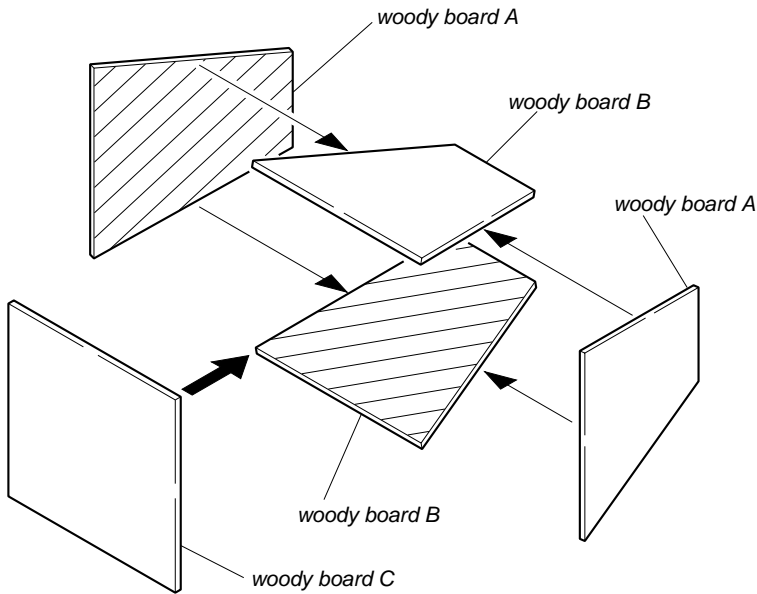

Fig. 6-1-6
- 4) Assemble so that the black sides and the background paper side of woody board A, B and C are internal. (Fig. 6-1-6)